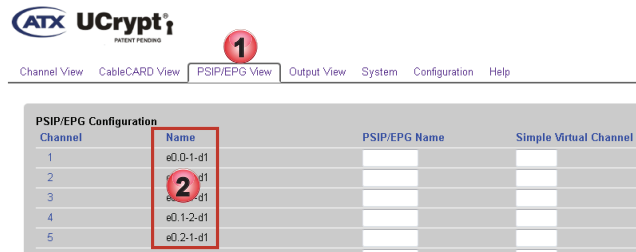

Figure 8-2: List from Channel View Page
1. Click the **PSIP/EPG View** tab if it isn't already selected, Figure 8-2.